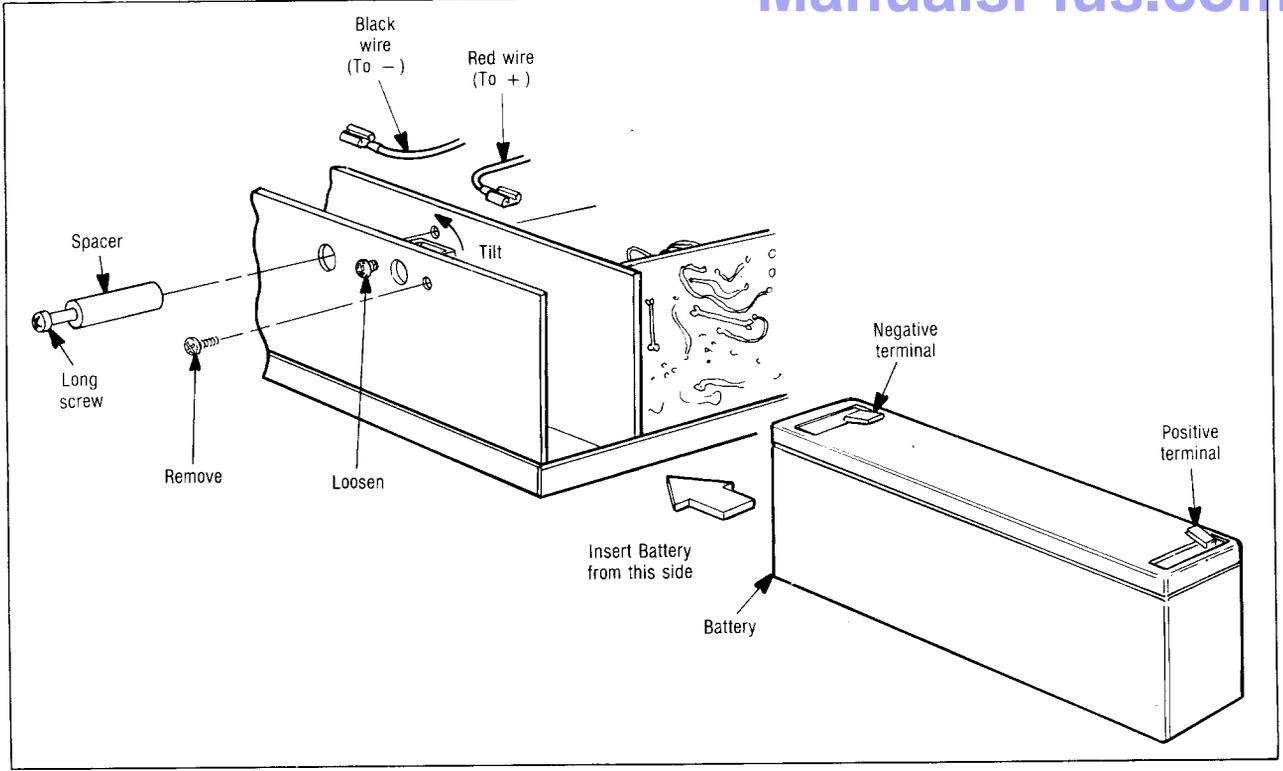

Figure 5. Battery Installation.
BATTERY INSTALLATION (refer to Fig. 5)
6. Slide battery into position under connectors so that positive (red) terminal is located to the right as shown in Fig. 5. Be sure not to damage any wires.